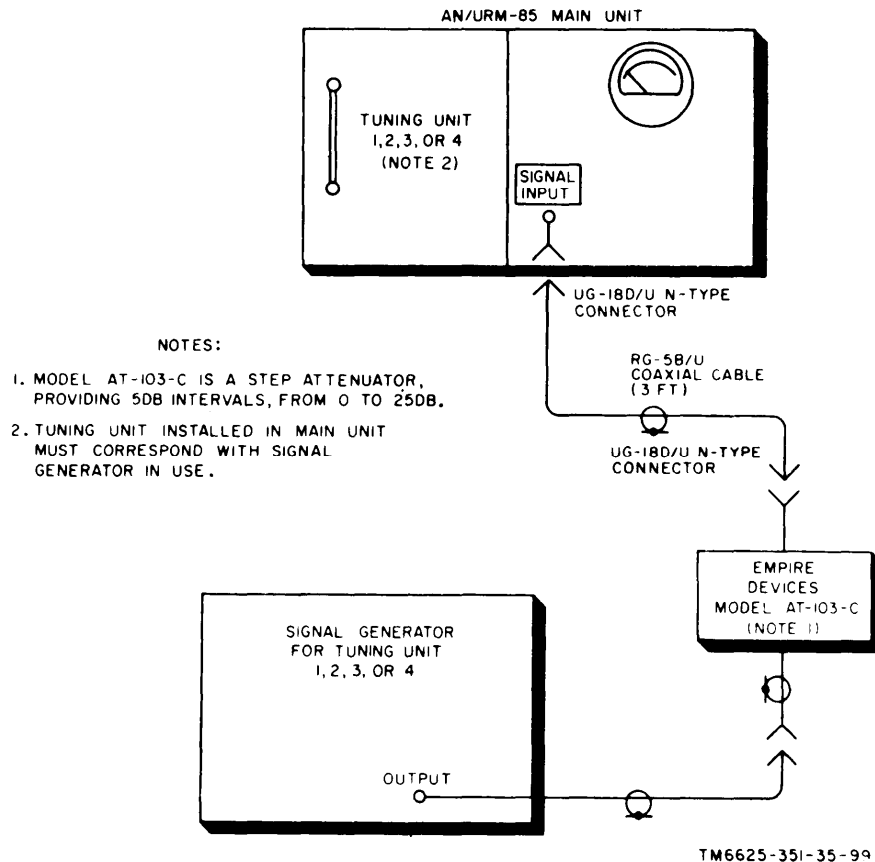

Figure 94. Test setup for linearity check.
(fig. 94)
Two tests are required to check the linearity of the test set; one checks the linearity in the PULSE PEAK position of the function switch, and the other checks the linearity in the CW AVERAGE position of the function switch. Remove the main unit from its instrument case (para 40 b, item 12, TM 11-6625-351-12). Set up the equipment as shown in figure 94 and proceed as follows:
- (1) Set the main unit function switch to the PULSE PEAK position.
- (2) Set the tuning unit signal generator output level control to produce a
a. With a tuning unit plugged into the main unit, use the same test setup as in figure 94 except for substituting the 10-db pad (para 100) for the 5-db variable step